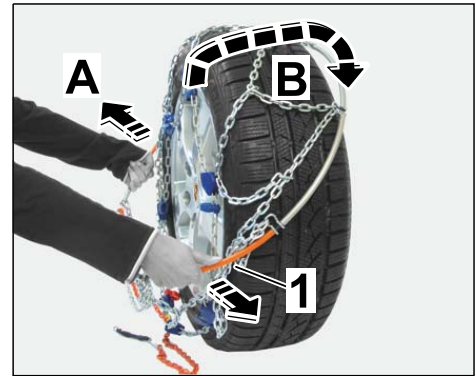

Figure 5
2.1.3 Pull the ends of the spring steel clip the maximum distance apart (⇒ *Figure 5 -A-*).
Guide snow chain over the wheel from above (⇒ *Figure 5 -B-*).